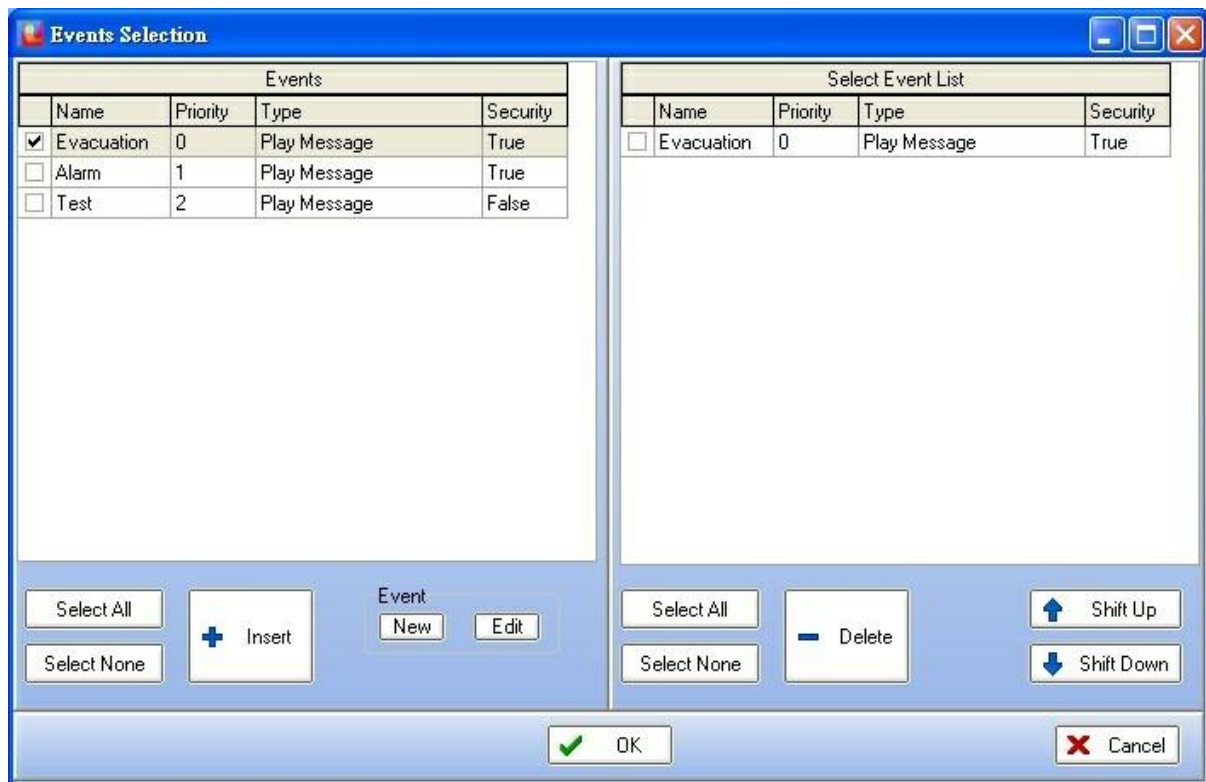

Figure 23: Evacuation Inputs Event Selection page
- Click on the "Start" under "Event Setting" for channel 1. You will enter in the "Events Selection" page, see Figure 23.